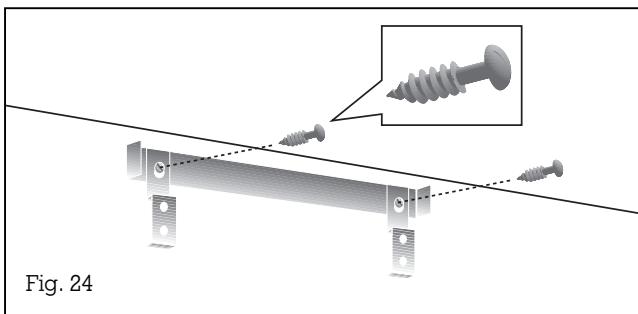

Fig. 24
- Screw the retaining bracket for the chimney paneling onto the wall together with the two retaining brackets for the housing (air guidance) (Fig. 24).